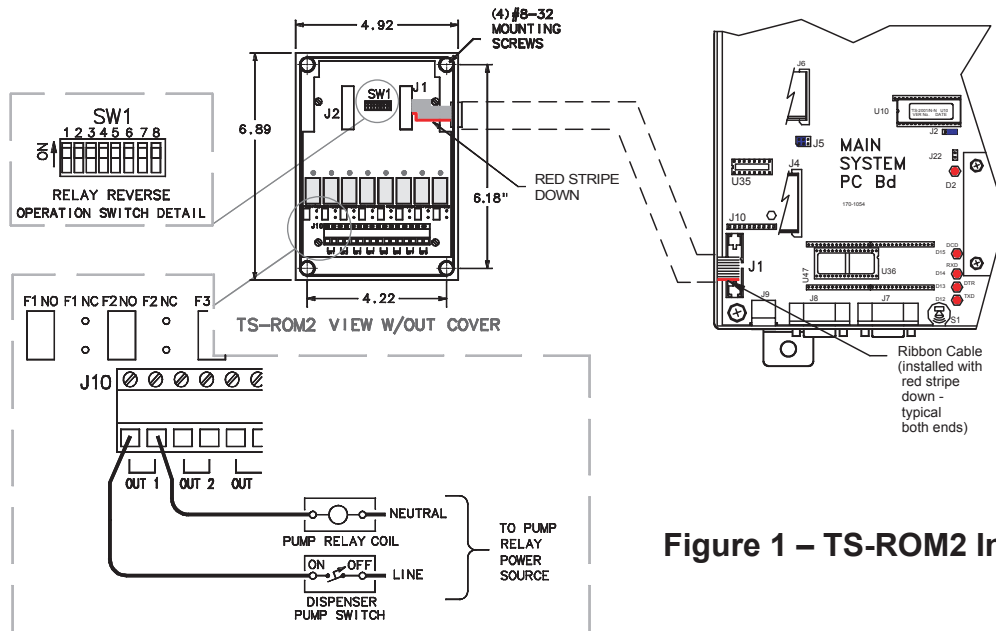

Figure 1 – TS-ROM2 Interface
**Warning**  **All wiring must enter the Tank Sentinel® enclosure through the non-intrinsically safe knockouts as shown in Figure 1. An explosion hazard may result if other openings are used.**
One end of the ribbon cable connector mates to J1 at the TS-ROM2 module, and the other end will connect to J1 at the ATG console after it has been "pulled" through 3/4 inch flexible conduit. The dispenser pump relay coil wiring, and the dispenser pump switch wiring, will enter through a conduit at one, or both, of the two 1/2 or 3/4 inch knockouts provided at the bottom of the TS-ROM2 enclosure. Either of the two relay output channel terminals can be wired to the dispenser pump relay coil, and the other remaining relay output channel terminal is wired to the dispenser pump switch (refer to Figure 1).
3. Locate and mark the four TS-ROM2 fastener positions. Remove the 3/4 inch knockout from the TS-ROM2 and ATG console as indicated in Figure 1.
4. Install a 11 inch (maximum length) piece of 3/4 inch flexible conduit between the two enclosures and fasten the TS-ROM2 module using four appropriate #8 fasteners. Pull the BriteBus ribbon cable through the conduit and connect it to J1 at the ATG console. The red stripe of the ribbon cable should be facing down on the TS-ROM2 and ATG connectors as indicated in Figure 1.
1. For each dispenser pump output channel (**OUT n**) used, run one conductor from either of the two relay output channel terminals to the dispenser pump switch, and run one conductor from the other remaining relay output channel terminal to the pump relay-coil (Line Voltage) terminal. Leave a service loop at both ends (refer to Figure 1).